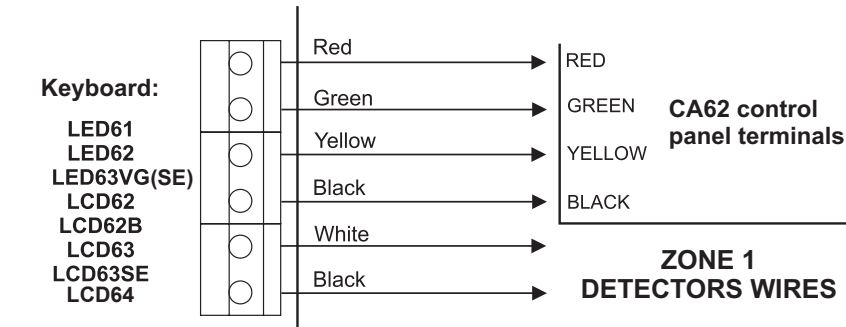

Figure 9. Connecting keyboards to CA62 control panel.
**The colors must be observed when connecting the keyboards to the CA62 Control Panel (see Figure 9).** **Note:** The connection in the connection below is principled. Note that in some keyboards the terminals for connecting to ZONE 1 could be situated above the terminals for connecting to the control panel.